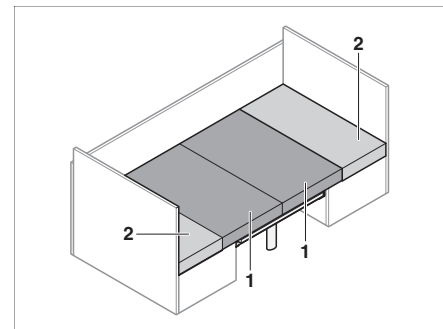

Fig. 70 After conversion
- Pull the seat cushions (Bild 70,1) into the centre.
- Insert the back cushions (Bild 70,2) between the seat cushions and the wall.